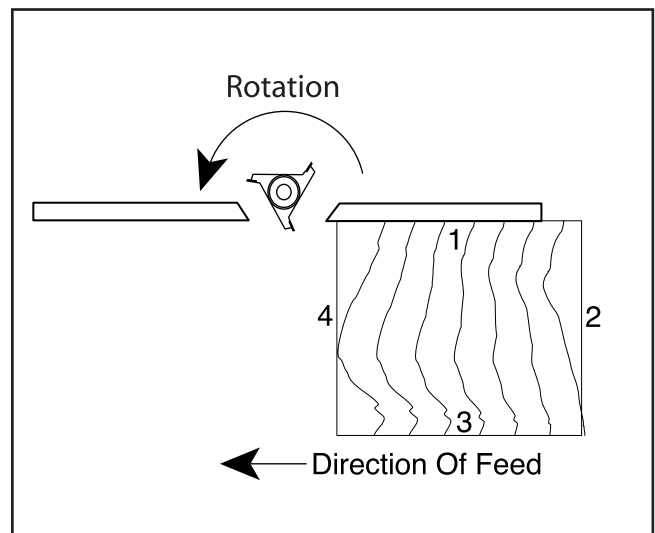

Figure 35. Fence adjustment for multiple cuts.
5. Always cut the end grain first when putting an edge around the perimeter of your workpiece (see **Figure 35**).